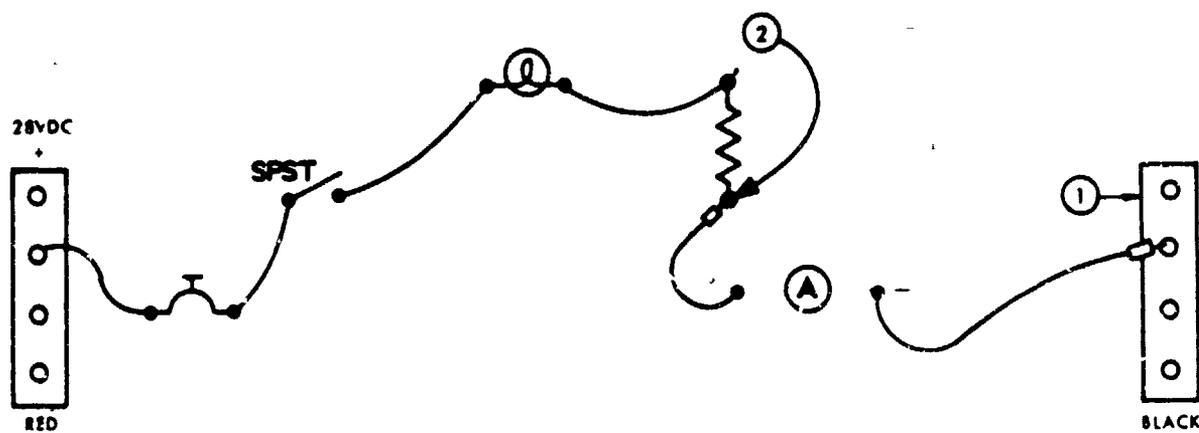

Figure 5.
- b. (1) series
(2) one
(3) fuse wire
- c. (6) 1-2 1 amp (Figure 5) ± 0.3 amps